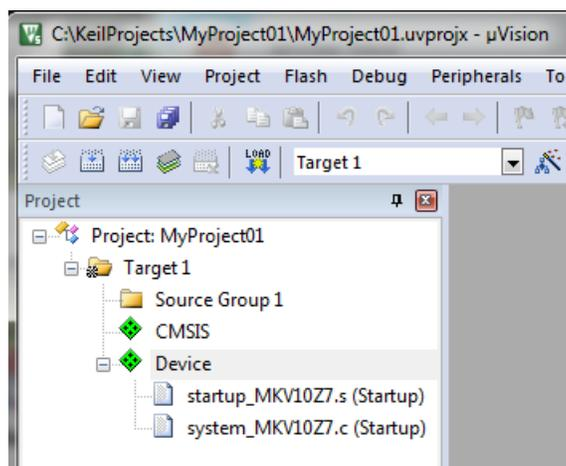

Figure 1-31. Project
- Click OK, and a new project is created. The new project is now visible in the left-hand part of Keil μVision. See Figure 1-31.